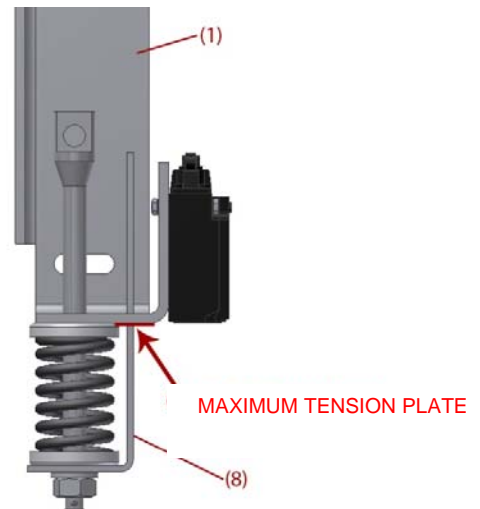

Figure 17: Maximum tension position
Pre-tensing will be maximum when the maximum tensioning plate (8) gets in contact with the bracket (1), as displayed in figure 17.